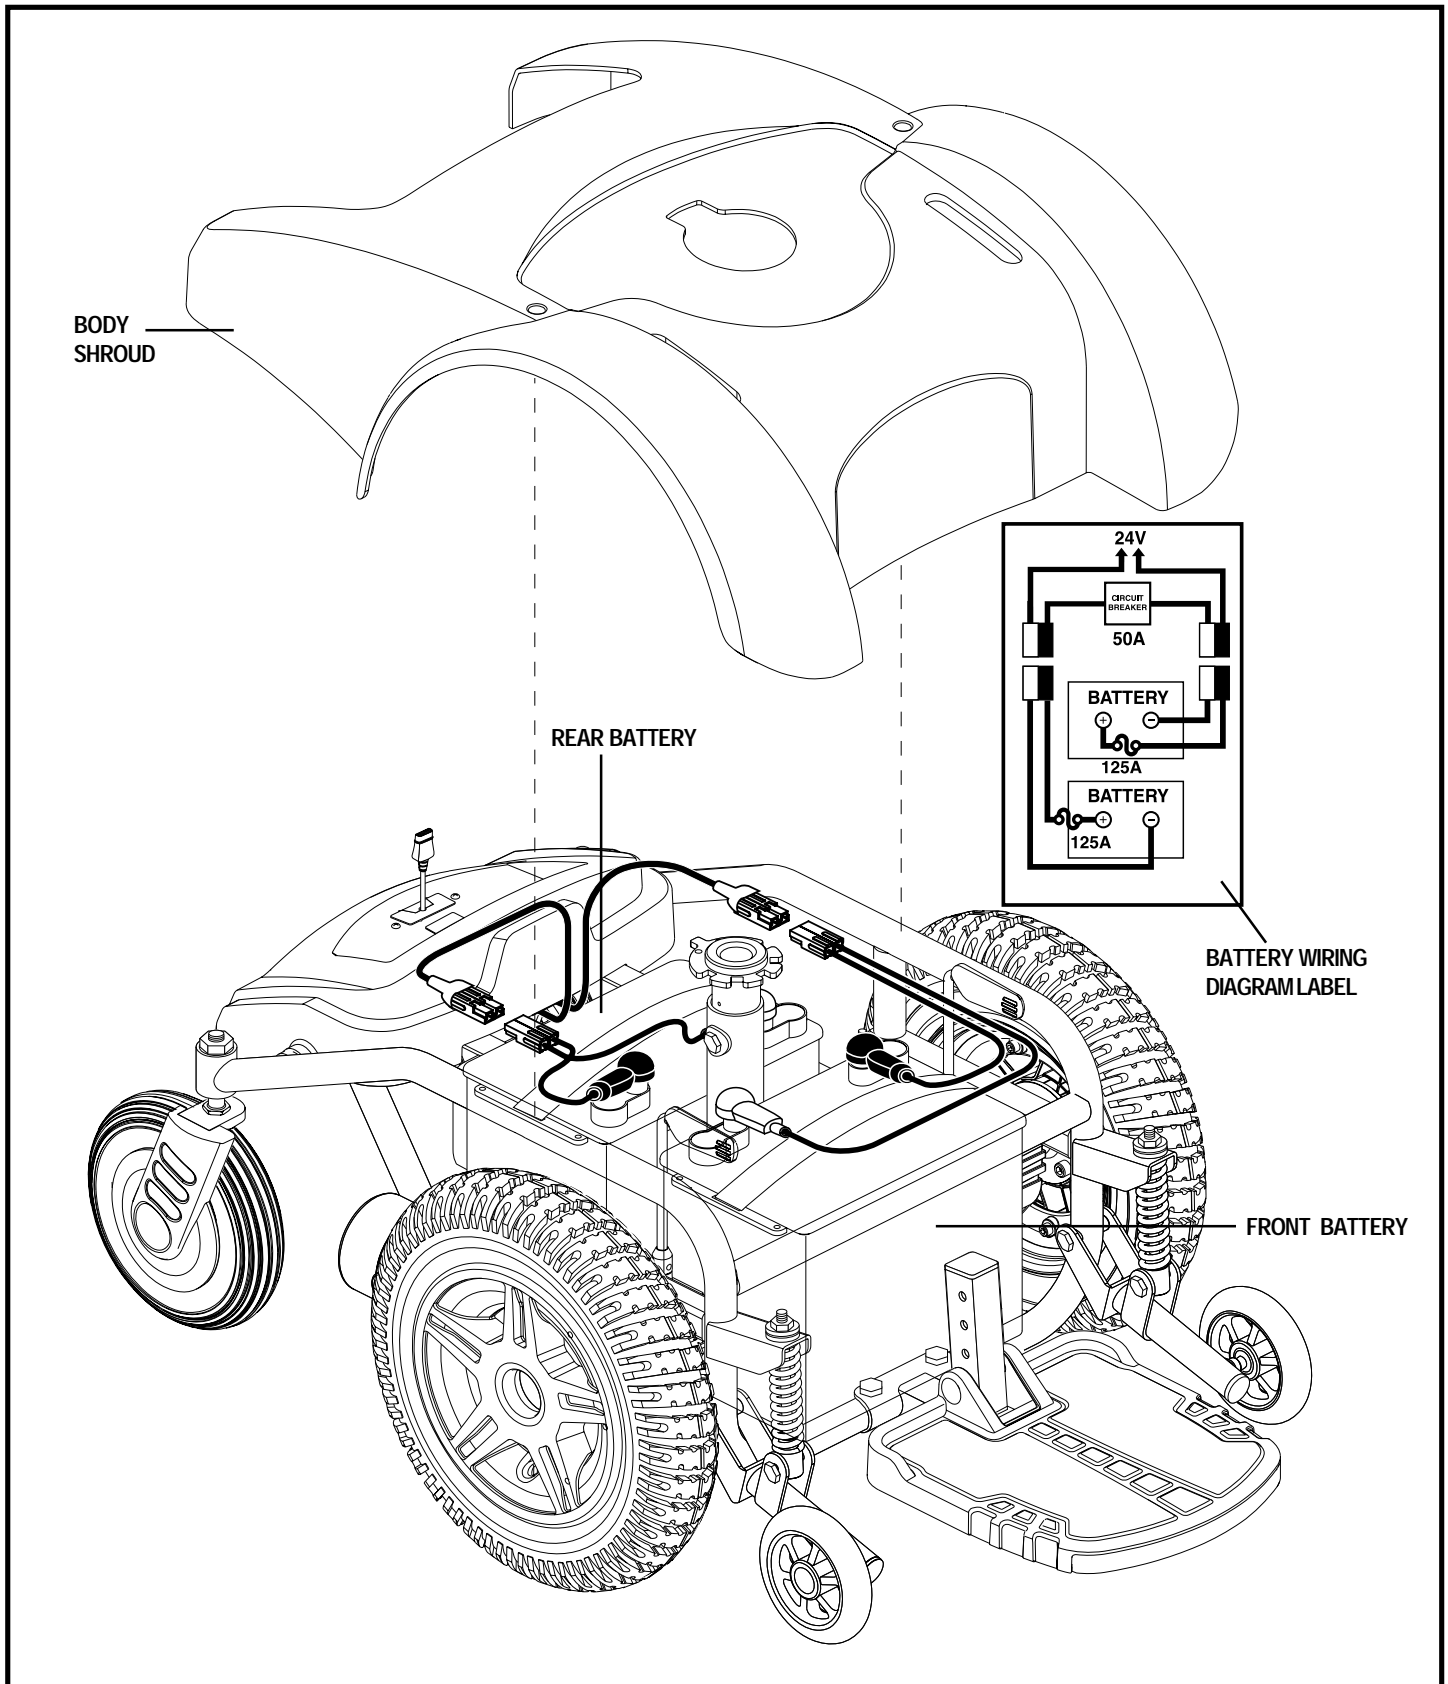

Figure 24. Battery Installation
12. Connect the wire marked (+) to the closest positive (red) battery terminal. See figure 24.